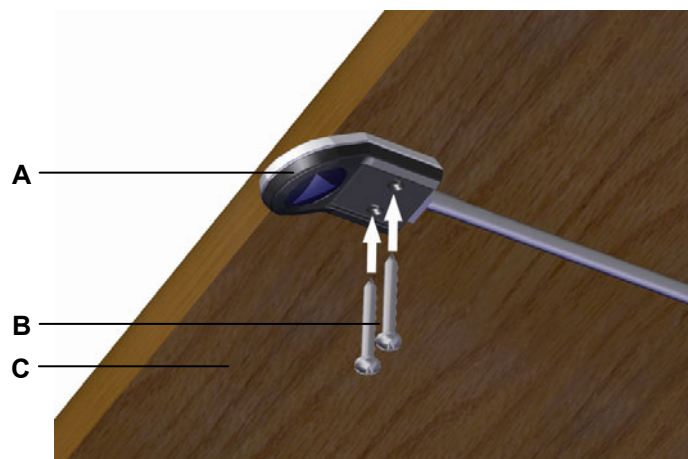

Figure 12 Installation of the Motion Assist Control Keypad
The Motion Assist control keypad is mounted with two screws under the table (under the front edge of the table) as shown in Figure 12.
- Use screws (B in Figure 12) which meet the requirements of DIN 7981 with $\text{Ø } 3.9 \text{ mm}$ and of suitable length (10 mm plus the screw-in depth into the table), screw head: $\text{Ø } 7.5 \text{ mm}$.